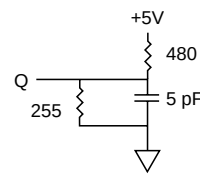

Fig. 2 OUTPUT LOAD EQUIVALENT
6.  $t_{HZCE}$ ,  $t_{HZOE}$  and  $t_{HZWE}$  are specified with  $C_L = 5pF$  as in Fig. 2. Transition is measured  $\pm 500mV$  from steady state voltage.